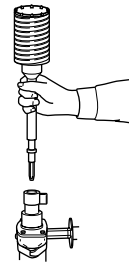
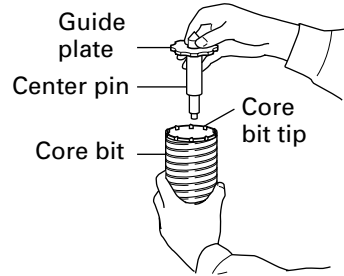

Fig. 13
Fig. 14
- (2) Mount the core bit shank on the main body in the same manner as in mounting the drill bit and the bull point. (Fig. 13)
- (3) Insert the center pin into the guide plate until it reaches the extremity.
- (4) Fit in the guide plate by aligning its concaved portion with the core bit tip. When the position of the concave is shifted by turning the guide plate right or left, the guide plate never slips off even when the rotary hammer is used in a downward direction. (Fig. 14)